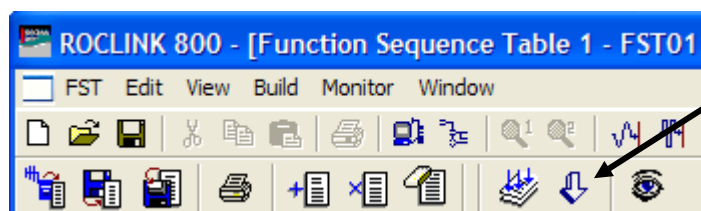

Figure 2-4. FST Editor Toolbar: Download
1. Select **File > Download** or click **Download** on the FST Editor toolbar (see Figure 2-4).